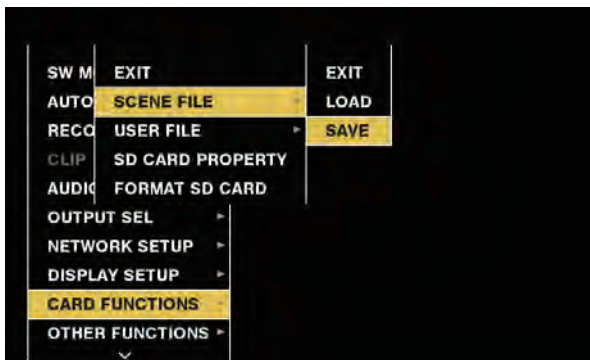

Fig. 1
- 1 Select [SAVE] in the main menu → [CARD FUNCTIONS] → [SCENE FILE]. (Fig. 1)